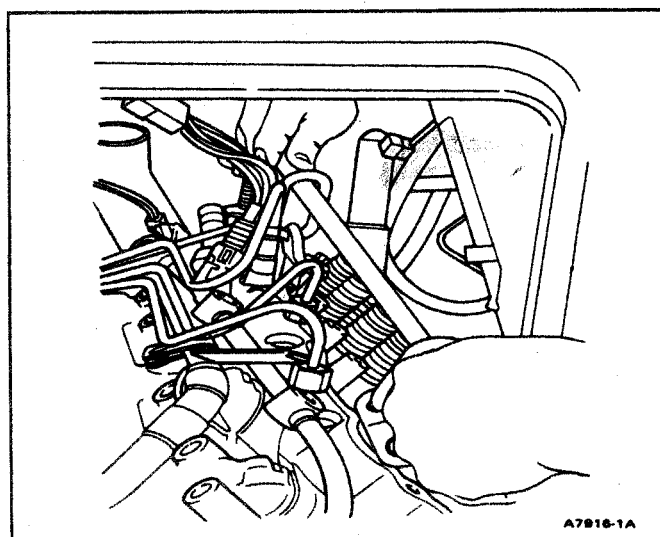

FIG. 60 Cylinder Head Removal—E-250—E-350
26. For E-250—E-350, install suitable bar through rings on lifting eyes. With an assistant, carefully lift cylinder head and remove (Fig. 60).